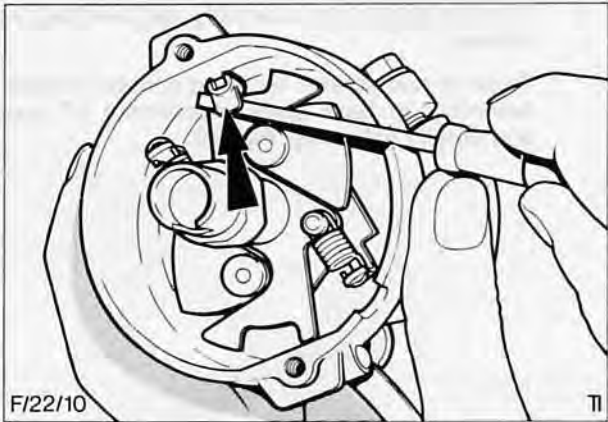

Fig. 42. Prising off plastic bump stop
6. Prise off plastic bump stop, Fig. 42.